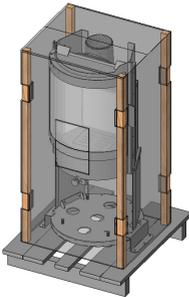

FIG. 1 - STUB STRUCTURE PACKAGE
- One contains the structure of Fig. 1.